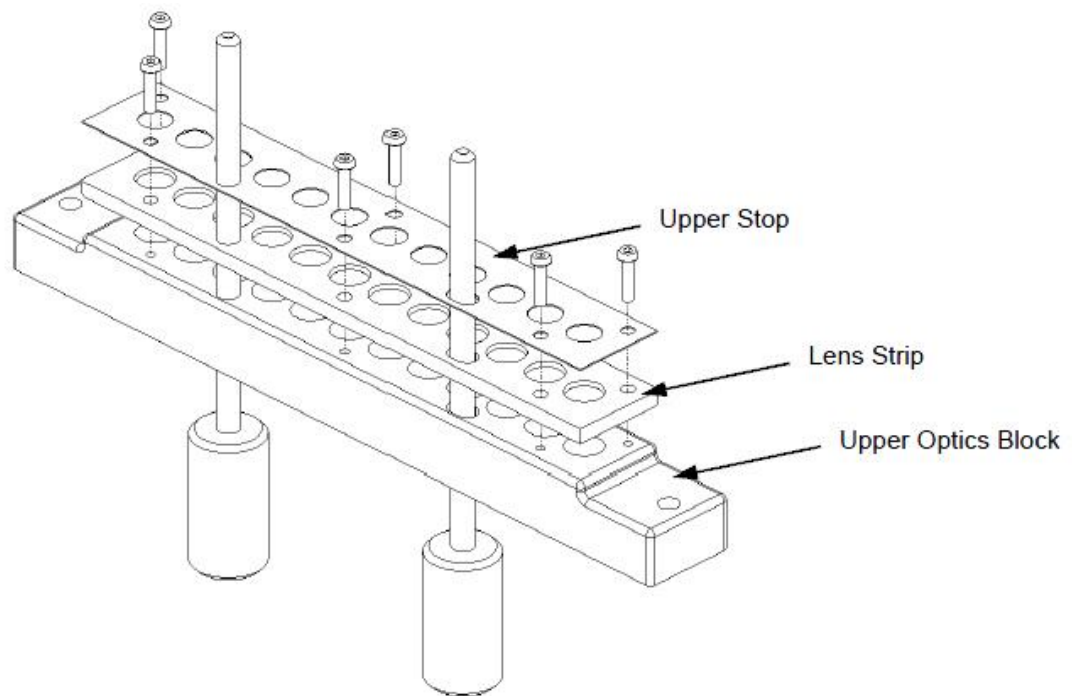

Figure N-12: Constructing the Upper Optics Block
2. Loosely fit a Lens Strip and an Upper Stop to an Upper Optics Block using six M2x8 Socket Button Head Screws. Slide two Alignment Pins through the assembly and tighten the screws. Remove the Alignment Pin Handles (Figure N-12).